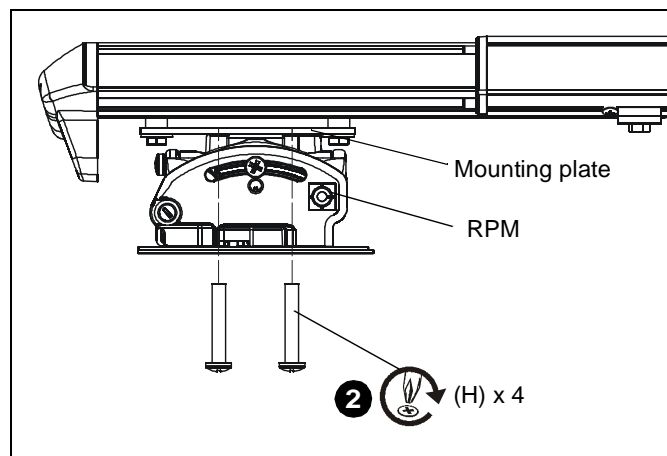

Figure 18
2. Install four 1/4-20 x 1-1/2" Phillips pan machine screws (H) through RPM holes and into projector mounting plate. (See Figure 18)